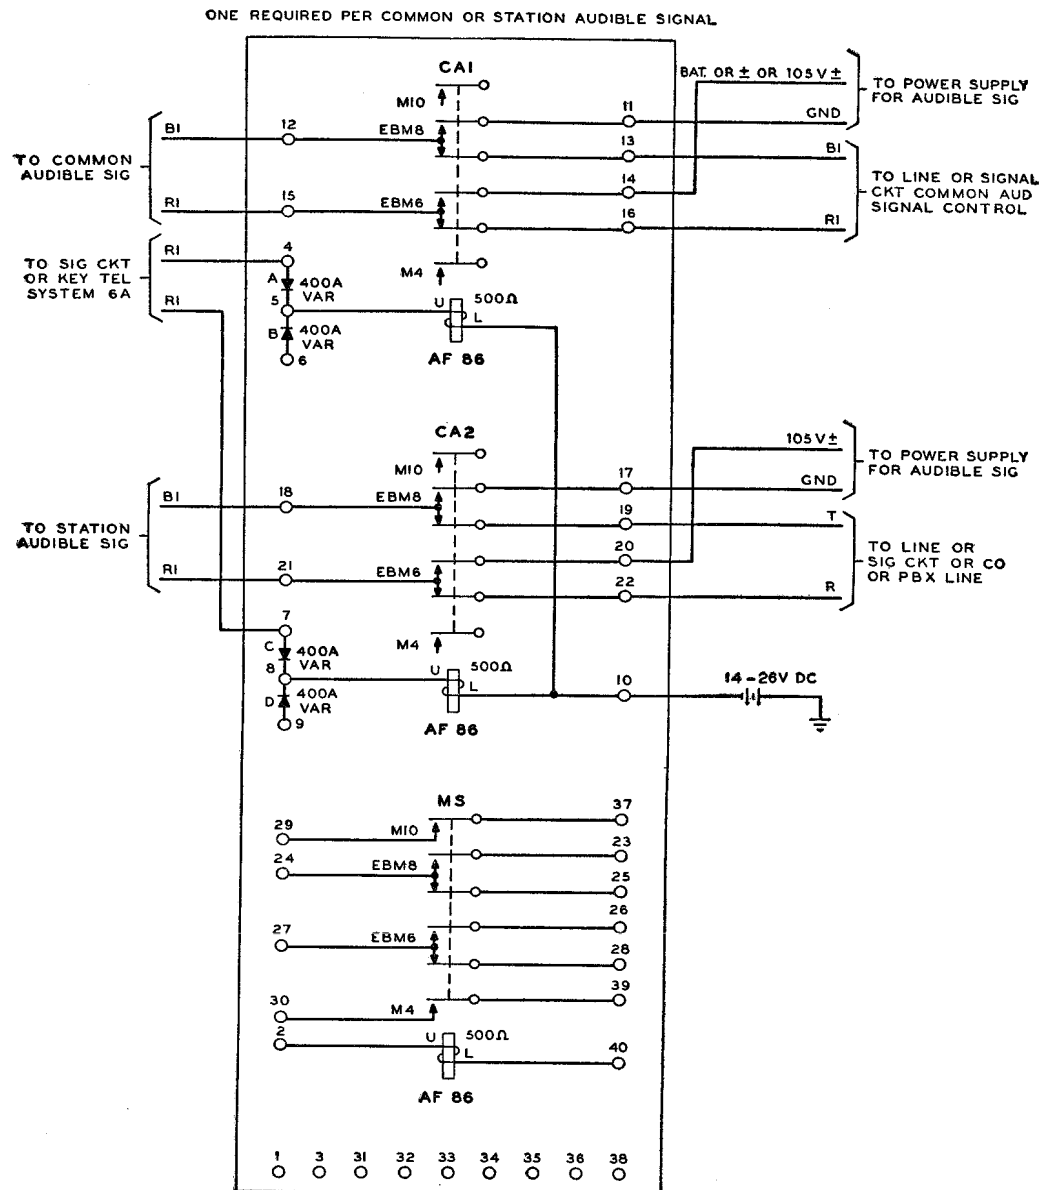

Fig. 6 — 227A KTU — Common Audible or Station Audible for 6A Key Telephone System
2.05 An arrangement for common audible or station audible signal for 6A key telephone system is shown in Fig. 6.